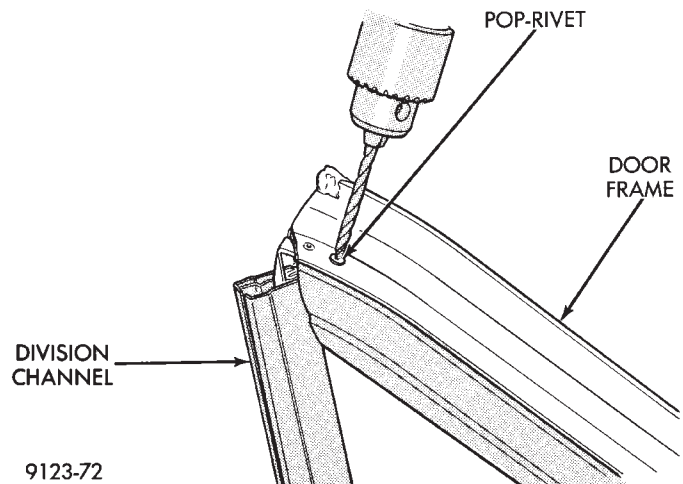

Fig. 22 Pop-rivet Removal
- (1) Remove front door glass.
- (2) Drill out rivets holding division channel to door frame (Fig. 22).